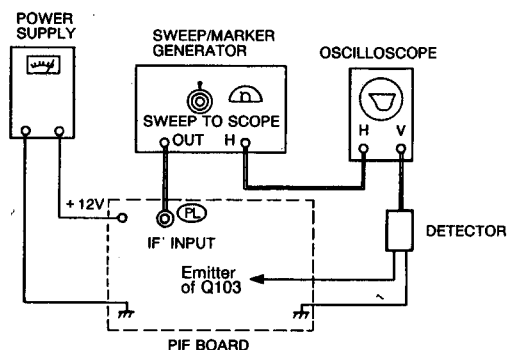

Figure 4.
- GENERAL Refer to figure 4 for the equipment connection.
SWEEP/MARKER GENERATOR..... Connect to pin PL of P102 on the PIF Board as shown in figure 4.